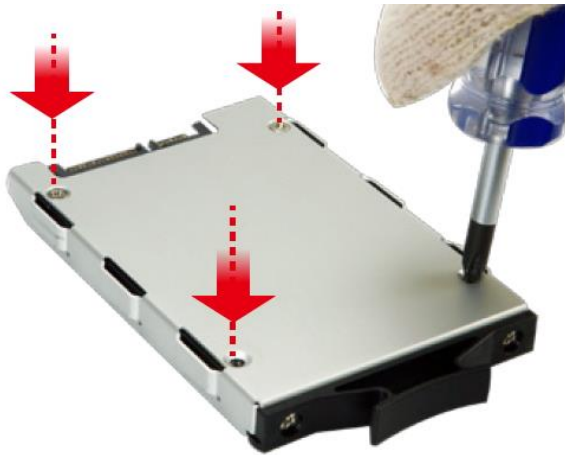

Figure 3-3: SSD Retention Screws
- Step 3:** Place an SSD onto the drive tray and secure the SSD with the bracket by inserting four retention screws (M3*4) into the bottom of the SSD (**Figure 3-3**).